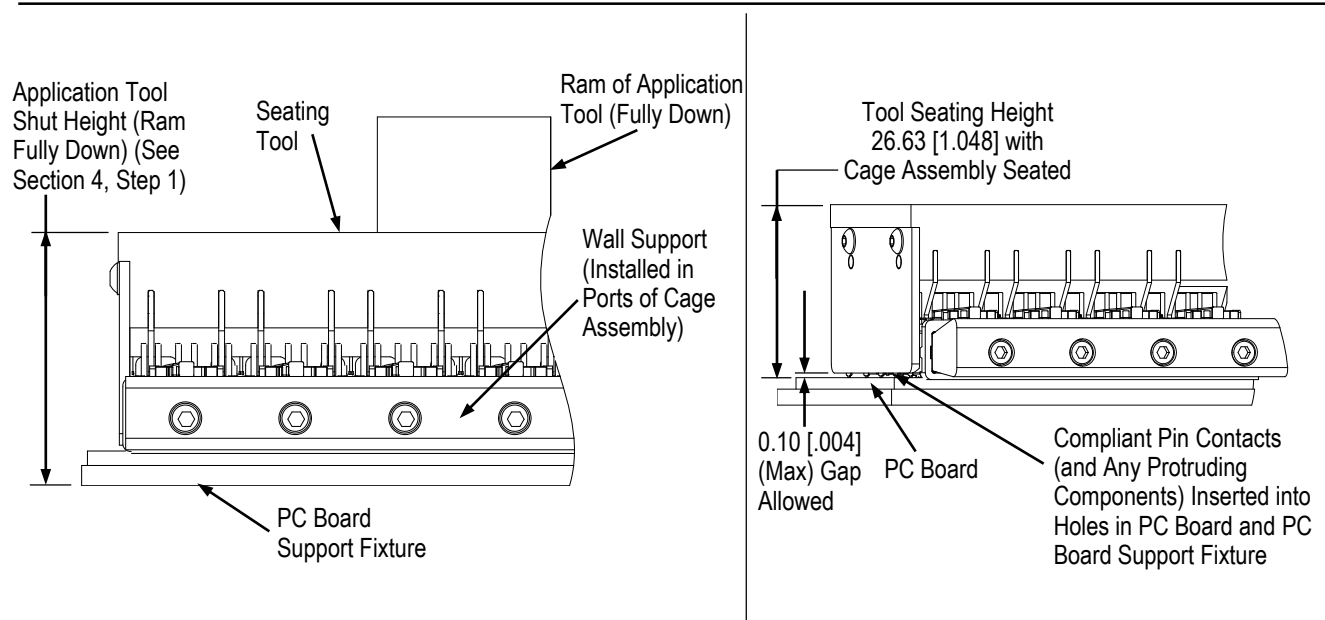

Figure 2
- Set the tool seating height to the dimension shown in Figure 2 (application tool shut height will equal the tool seating height PLUS the combined thicknesses of the pc board and support fixture).
5. SEATING (Figure 2)